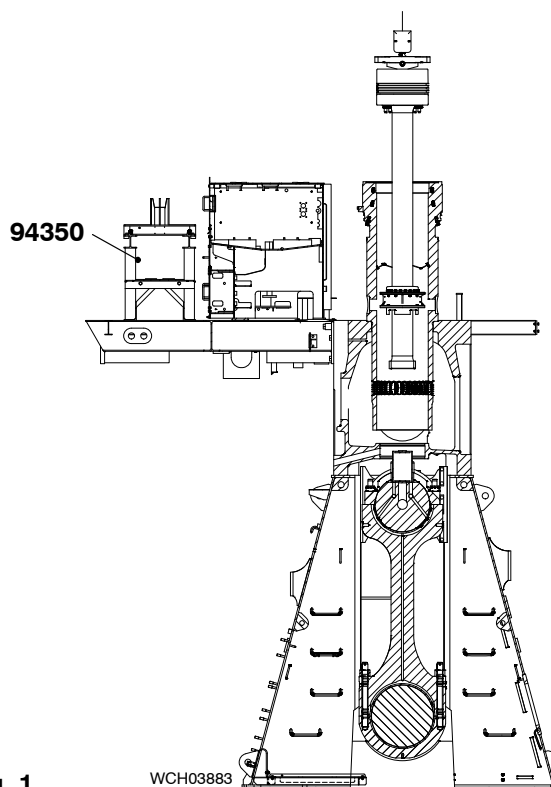

Fig. 1
- 8) Put the support tool (94350, Fig. 1) in position as shown.